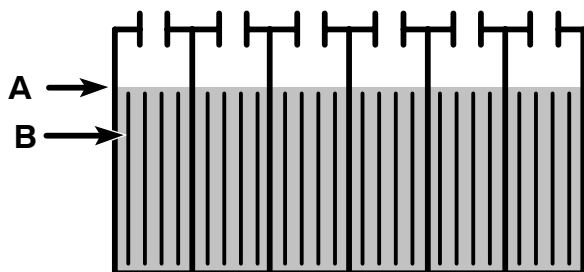

FIG. 22
The electrolyte level (A) should slightly cover the battery plates (B). Add distilled water as needed. DO NOT OVERFILL, the fluid may expand and overflow while charging. Replace cell caps before charging (Figure 22).